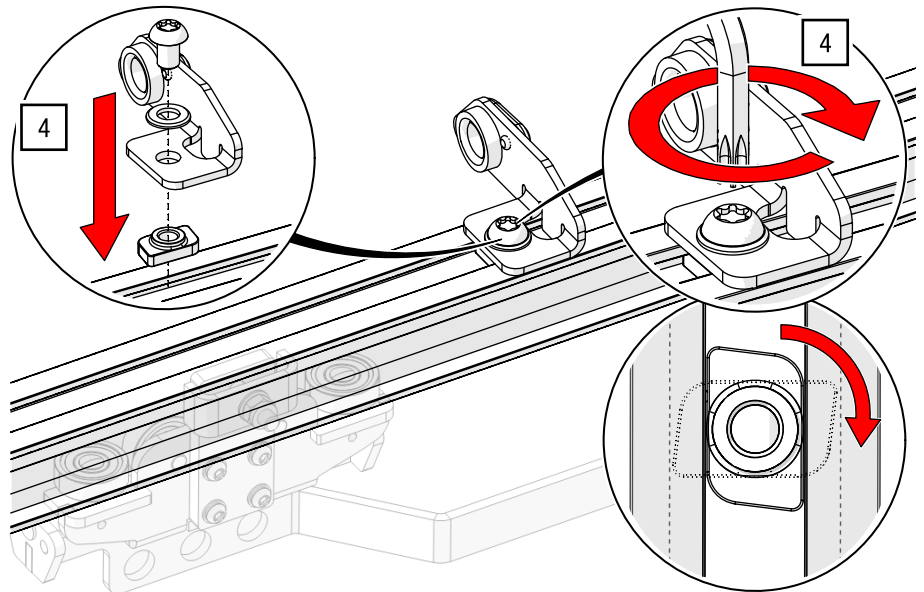

Fig. 76: Side cord operation – Fitting the cord guide
4. Position one of the cord guides supplied close to the suspensions and attach the rest to the track profile (hole on the opposite side of the cord clamp of the master runner) using a TORX®-key T40 and 27 Nm (see Fig. 76).